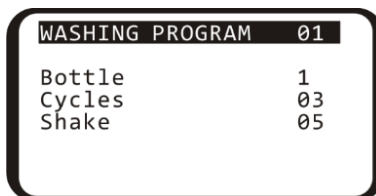
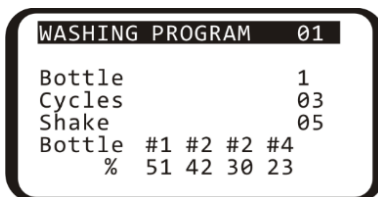

Figure 11. Running program
Figure 12. 4CHW Logger attached
5.8.1 During operation, display (figure 11) shows the program number (**01**), number of the bottle in use (**1**), the current cycle (**03**) and the current timed action (**Shake . 05**).
5.8.2 If **4 CHW Logger**, the 4-channel washing solution weight logger is connected to the unit, then in addition to values on figure 11, display shows percentage of the remaining volume of liquid in the bottles (figure 12). For the waste bottle #4, percentage values will be increasing.